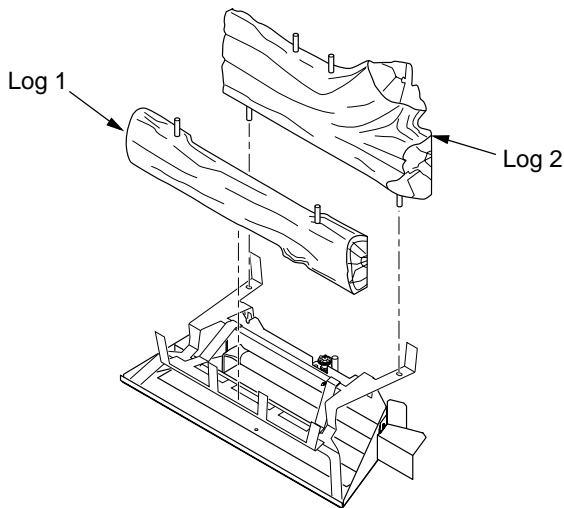

Figure 24 - Installing Logs 1 and 2
1. Place front (log 1) onto front of grate sliding log all the way forward against grate fingers (see Figure 24).
2. Insert pegs on bottom of rear log (log 2) into holes in rear of grate (see Figure 24).